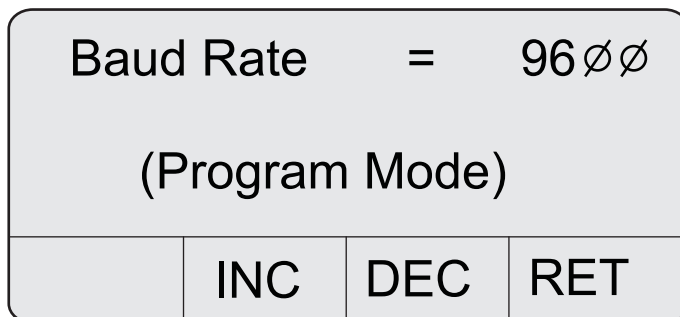

Figure 44 Baud rate screen
2. Press **2 (NXT)** twice to display the Baud Rate screen (refer to Figure 44).